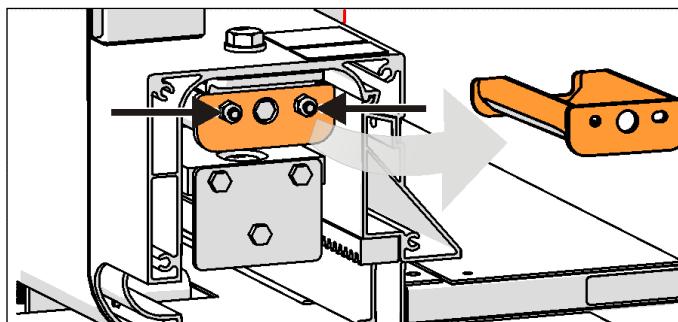

FIGURE 5 EXTENSION STOPPER REMOVAL
5. Remove the two nuts holding the extension stopper (perform on both sides). (Figure 5)